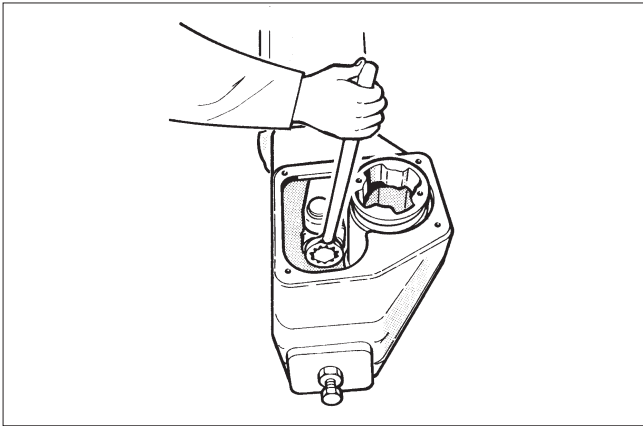

Fig. 10 Opening the fastening screw of the actuator bearing unit
- Remove the cylinder end side stop screw (26).
- Remove cylinder end (44).
- Remove housing cover (2).
- Unscrew the bearing screw (29) and the cylinder fastening screws (31) from the cylinder base (6) side, see Fig. 10. If the piston turns, do not prevent the turning with the piston fastening nut; send the entire actuator to the manufacturer to be repaired. **It is very dangerous if the lock welding of the piston fastening nut is broken!**
- Remove piston rod seal (16, 16a) and bearing (22). Clean the seal space.
- Remove cylinder end side stop screw (26).
- Open bearing unit (5) fastening screw (29). See Fig. 10.